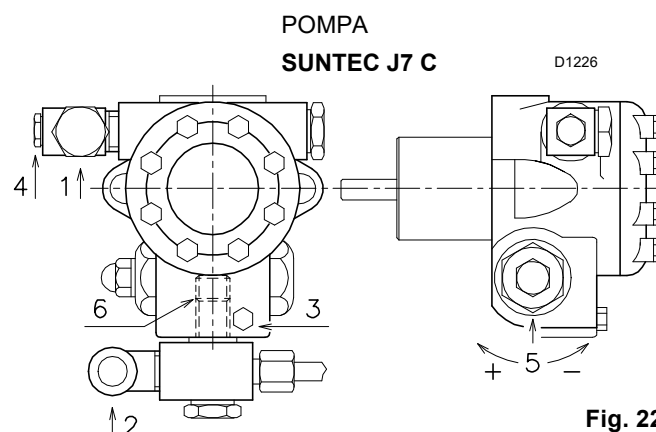

Fig. 22
The pumps are equipped with a by-pass that connects return line with suction line. The pumps are installed on the burner with the by-pass closed by screw 6)(Fig. 22).
- In order for self-priming to take place, one of the screw 3)(Fig. 22) of the pump must be loosened in order to bleed off the air contained in the suction line.